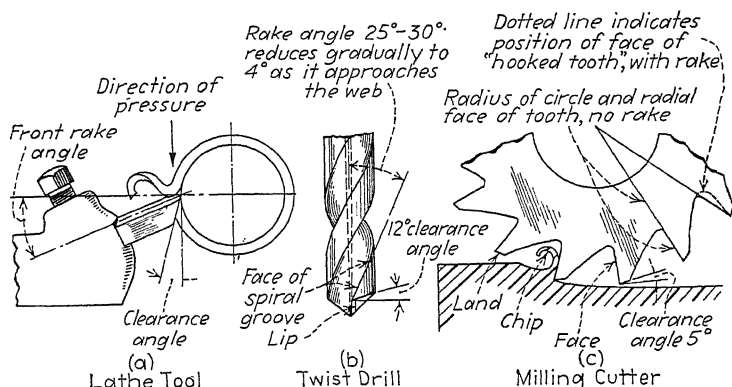

FIG. 48.—Shows clearance and rake on three much-used machine-shop cutting tools.
1. The work in a lathe as it revolves is forced down against the cutting tool (*a*, Fig. 48), the chip is pried off against the top of the tool, and the front and side clear the work.
2. A twist drill, pressed (fed) into the work, cuts as it revolves. The cutting edges dig into the metal, the faces (of the spiral grooves) pry or peel off the chips, and the “lips” clear the work because they have been “backed off,” that is, given clearance (*b*, Fig. 48).
3. In the case of a milling cutter the face of the tooth peels off the chip while the “land” just clears (*c*, Fig. 48).
or if a drill has straight grooves (see page 174) it has no rake. Note in Fig. 48 that both the lathe tool and the twist drill have rake, while the milling cutter, having a radial tooth, has no rake. A milling cutter with a "hooked tooth" has rake (shown in one tooth in Fig. 48). When a tool has no rake it pushes off the metal, while if it has rake it tends to peel off the chip. Most tools have rake.